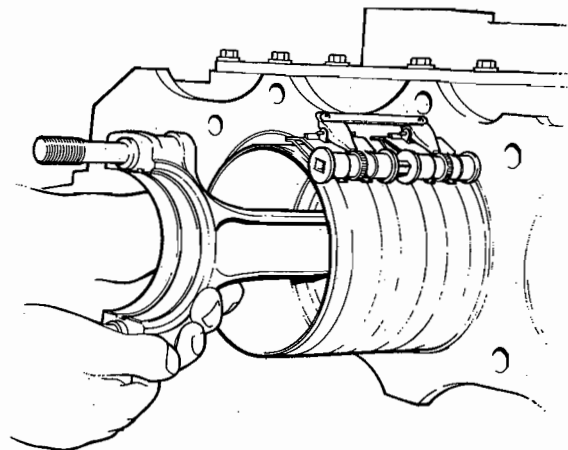

FIG. 7 FITTING PISTON AND CONNECTING ROD INTO CYLINDER BORES
3. Compress rings with the aid of compressing tool No. 8 as shown in Fig. 7.
6. Repeat items 2–5 for remaining piston and connecting rod assemblies. With each piston assembly at T.D.C. in their respective bores the cylinder block is now ready to assemble to crankcase.